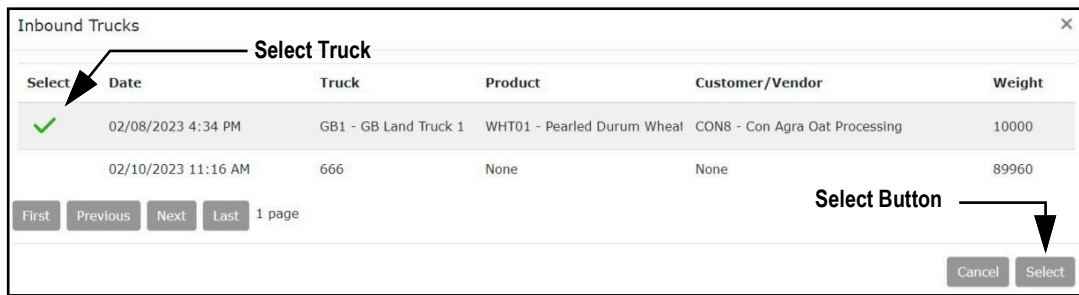

Figure 9-10. Inbound Trucks Window
- The Inbound Trucks window displays (see Figure 9-10 on page 121).